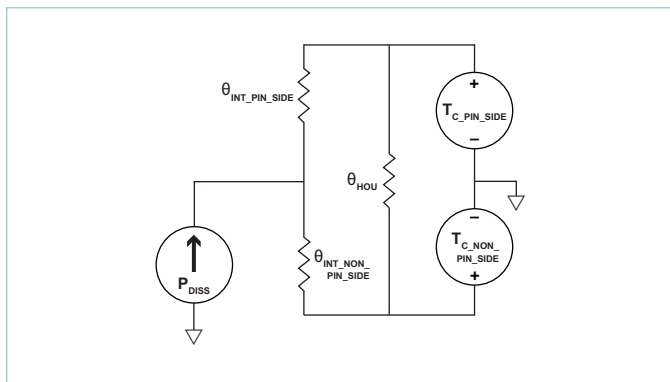

Figure 18 – Double sided cooling VIA thermal model
The VIA package provides effective conduction cooling from either of the two module surfaces. Heat may be removed from the pin-side surface, the non-pin-side surface or both. The extent to which these two surfaces are cooled is a key component for determining the maximum power that can be processed by a DCM in a VIA package, as can be seen from specified thermal operating area on Page 4. Since the VIA package has a maximum internal temperature rating, it is necessary to estimate this internal temperature based on a system-level thermal solution. To this purpose, it is helpful to simplify the thermal solution into a roughly equivalent circuit where power dissipation is modeled as a current source, isothermal surface temperatures are represented as voltage sources and the thermal resistances are represented as resistors. Figure 18 shows the “thermal circuit” for the VIA package.
- Single side cooling: the model of Figure 18 can be simplified by calculating the parallel resistor network and using one simple thermal resistance number and the internal power dissipation curves; an example for non-pin side cooling only is shown in Figure 19.